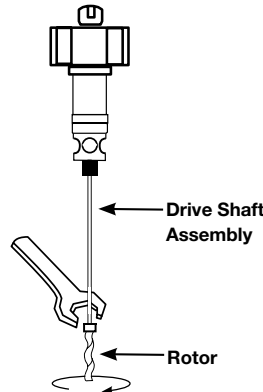

Figure 11
7. Hold the drive shaft in a fixed position and loosen the rotor (counterclockwise) located at the bottom of the drive shaft (see Figure 11).
6. Thread rotor onto drive shaft (see Figure 11).